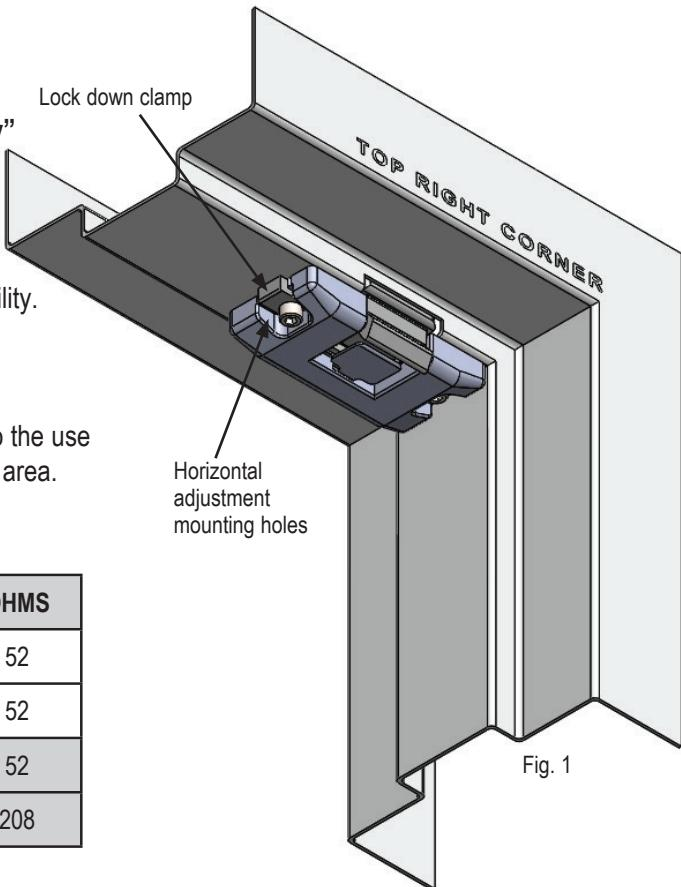

Fig. 1
10. The strike can be horizontally adjusted towards or away from the door using the slotted mounting holes on the faceplate. See Fig. 1.